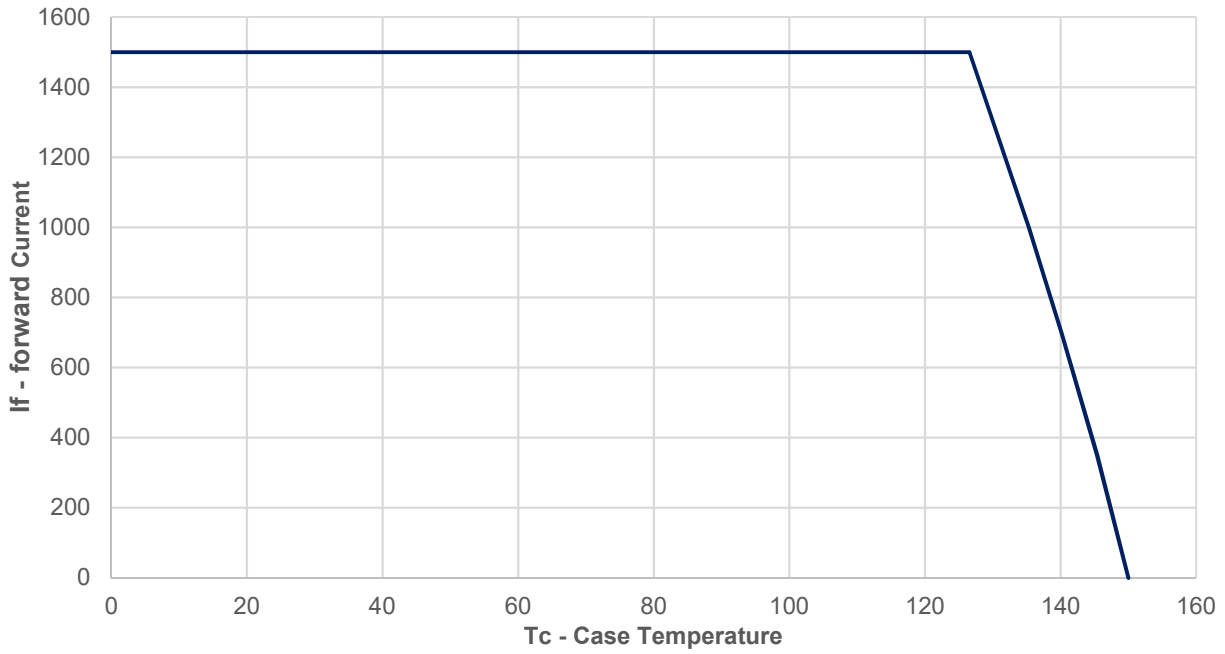

Figure 10: Maximum forward current vs. case temperature based on $T_{J(MAX)} = 150^{\circ}C$
- Maximum DC forward current is determined by thermal resistance and case temperature. Follow Figure 10 for current derating.
Notes for Figure 10: